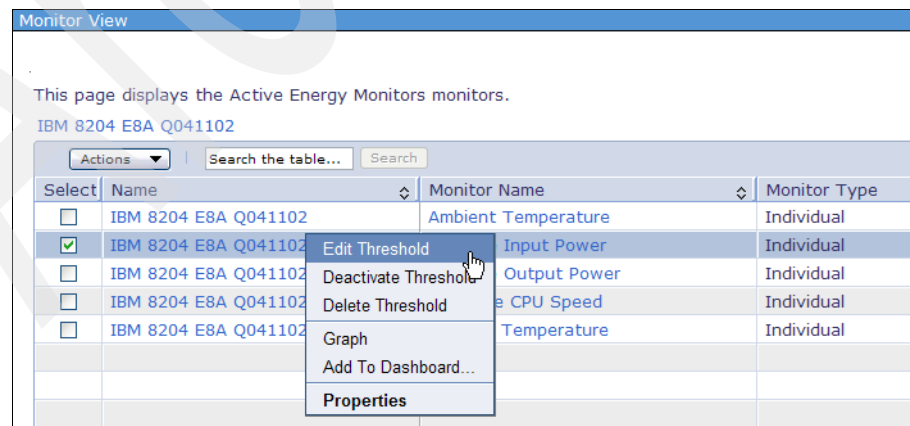

Figure 6-67 Activating a threshold on an Active Energy Manager resource - 1
2. Right-click the monitor for which you want to activate a threshold, and select **Edit Threshold** (Figure 6-67).